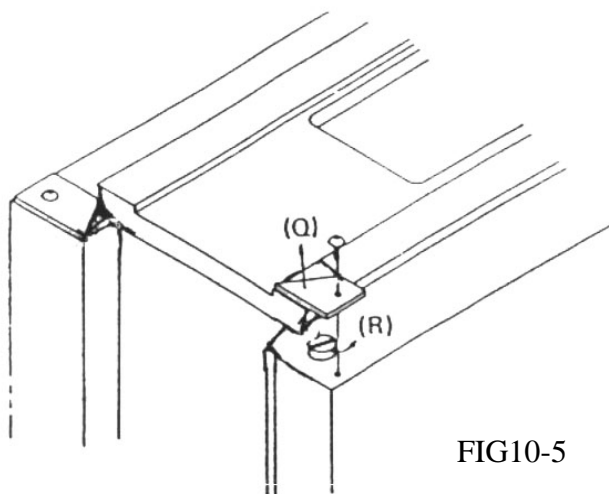

FIG10-5
10.2.3 Adjustment of knee gib (vide figure 10-5):